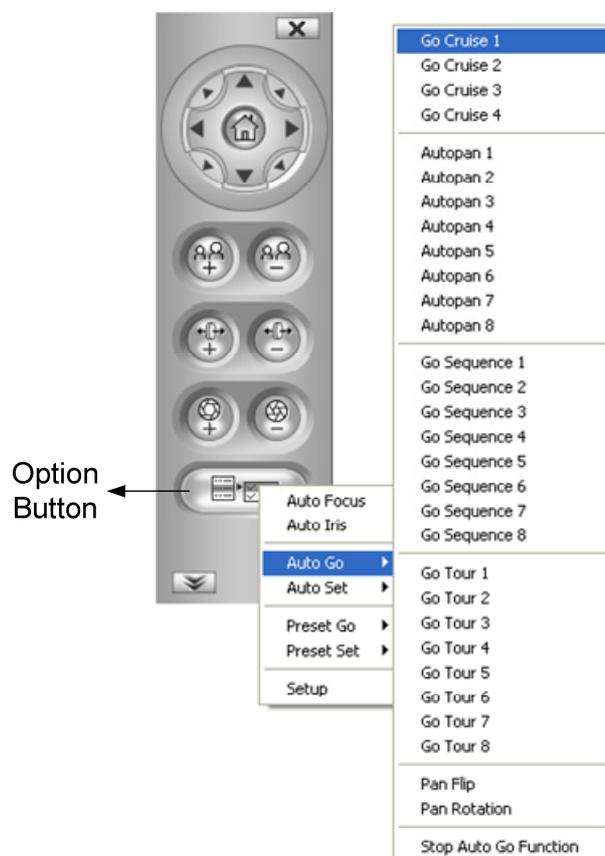

Figure 5-1
From the PTZ Control Panel (Figure 5-1), click **Option** and select **Setup**. This dialog box appears.
2. To save the preset position, click **Option** (Figure 5-1) on the PTZ Control Panel, click **Preset Set**, and select the desired preset number.
To move the dome view to a previously defined preset position, click **Option** (Figure 5-1) on the PTZ Control Panel, click **Preset Go**, and select a **Preset** number that has been set up.
1. Click **Option** (Figure 5-1) on the PTZ Control Panel, click **Auto Set** and select **Set Cruise 1**.
3. When you are finished with setting up a Cruise 1 route, click **Option** (Figure 5-1), click **Auto** and select **Set Cruise Stop**.
To start the Camera on a defined Cruise route, click **Option** (Figure 5-1) on the PTZ Control Panel, click **Auto Go** and select a **Go Cruise** number which has been previously set.
- B. Click **Option** (Figure 5-1) on the PTZ Control Panel, click **Auto Set** and select **Set Auto Pan 1 Start Position**.
- B. Click **Option** (Figure 5-1) on the PTZ Control Panel, click **Auto Set** and select **Set Auto Pan 1 Stop Position**.
To start the camera on an Auto Pan mode, click **Option** (Figure 5-1) on the PTZ Control Panel, click **Auto** and select an **Auto Pan** number which has been previously set. An enabled Auto Pan will repeat until it is stopped by clicking a Pan/Tilt Control key, home key, zoom button or focus button on the PTZ Control Panel.
1. From the PTZ control panel (Figure 5-1), click **Option**, select **Setup**, and click **Open** to display the **PTZ Configuration** dialog box, click **Sequence** located under **PTZ Setting** on the left menu.
To start the dome view on a Sequence route, click **Option** (Figure 5-1) on the PTZ Control Panel, click **Auto Go** and select a **Go Sequence** number which has been previously set. The dome view will continue moving once a Sequence is started. To stop the movements, click a Pan/Tilt Control key, home key, zoom button or focus button on the PTZ Control Panel.
1. From the PTZ control panel (Figure 5-1), click **Option**, select **Setup**, and click **Open** to display the **PTZ Configuration** dialog box, click **Tour** located under **PTZ Setting** on the left menu.
To start the camera on a Tour route, click **Option** (Figure 5-1) on the PTZ Control Panel, click **Auto Go** and select a **Go Tour** number which has been previously set. An enabled Tour will repeat until it is stopped by clicking a Pan/Tilt Control key, home key, zoom button or focus button on the PTZ Control Panel.